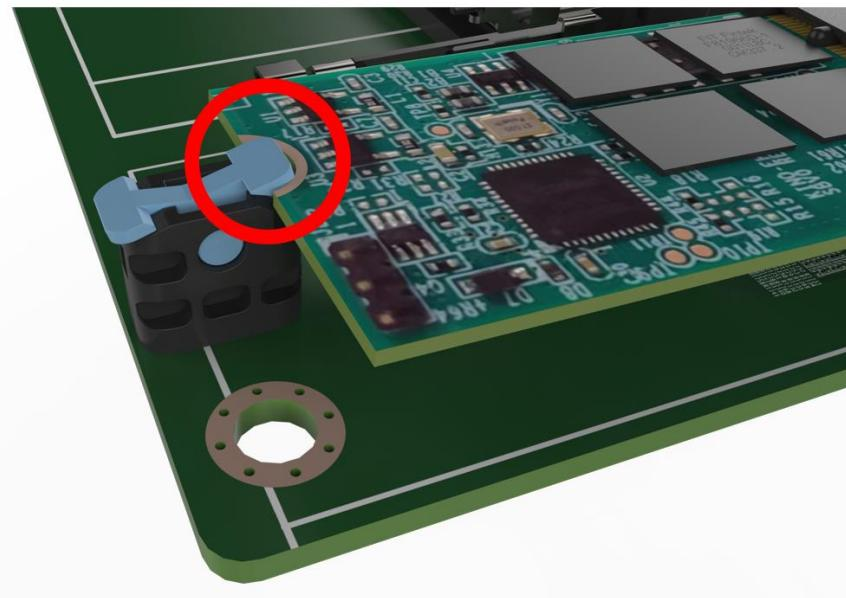

Figure 3-5: Insert M.2 Card
Step 4: Insert M.2 card. The notch at the end of the M.2 card needs to be aligned with the notch of the fixed buckle (Figure 3-5).